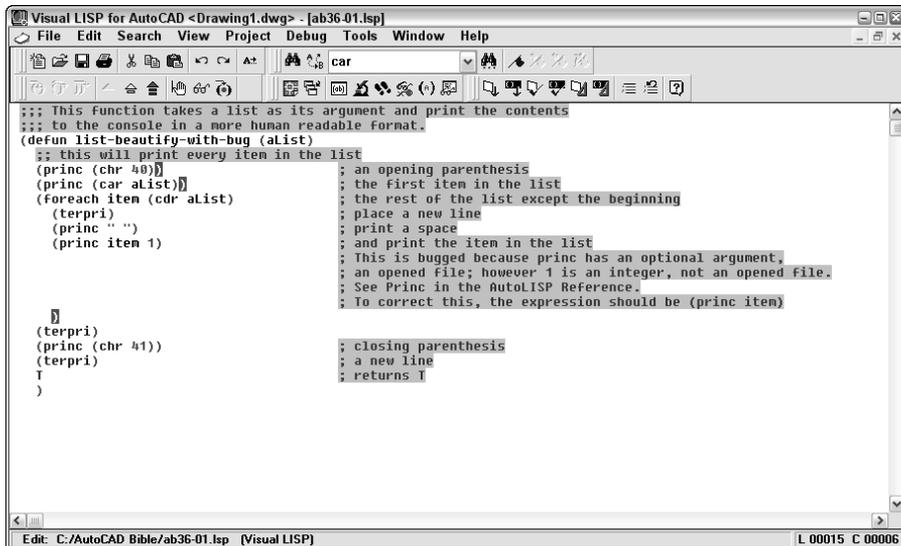

Figure 36-3: Your code after placing three break points.
9. Place another break point after `(princ (car aList))`. Finally, place a third break point after the closing parenthesis on the line that follows `(princ item 1)`. Your code should look like Figure 36-3.